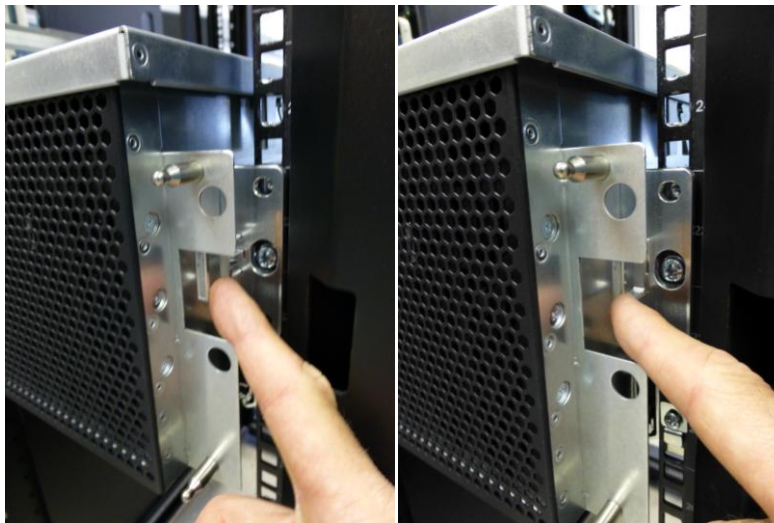

Figure 15. **Pushing IceBreaker 4960J Chassis Latch to the Lock Position**
- Push the IceBreaker 4960J chassis latch handle to the lock condition (Figure 15).